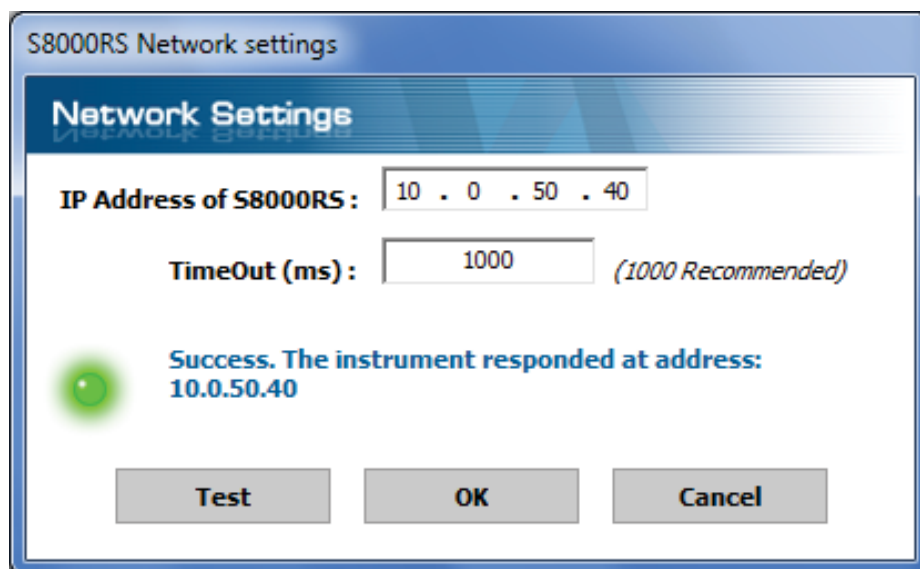

Figure 33 Network Settings Screen
2. Windows will recognize the instrument and automatically install the relevant drivers. If the driver installation has been successful then the Windows Device Manager will list the following driver (see *Figure 33*):